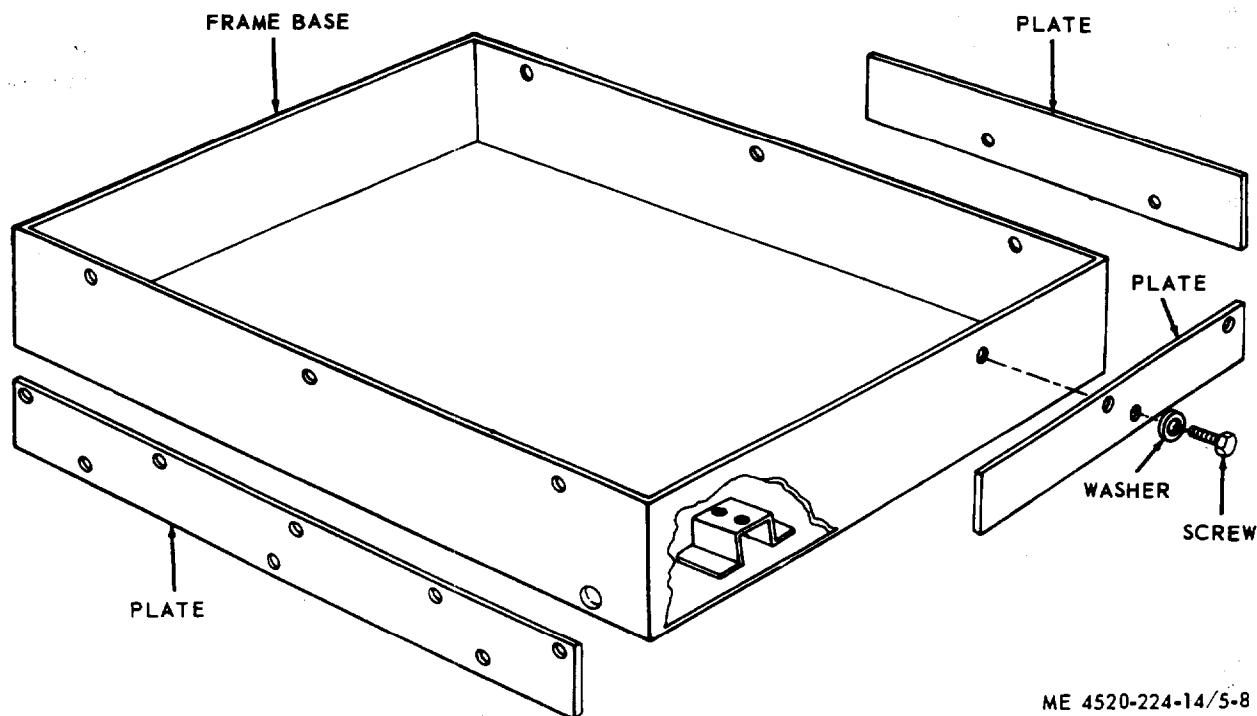

Figure 5-8. Heater frame assembly.
b. *Disassembly.* Refer to figure 5-8 for disassembly
c. *Assembly.* Reassemble per figure 5-8.